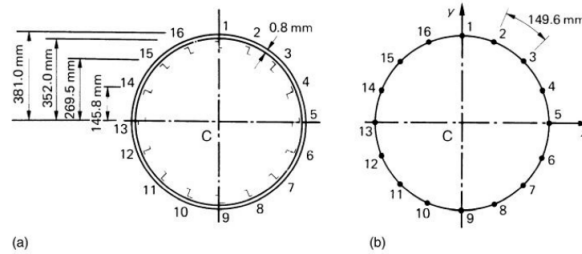

Figure 5
- (b) The fuselage shown in Figure 5 (a) below is subjected to a vertical shear load of 100 kN applied at a distance of 150 mm from the vertical axis of symmetry as shown, for the idealized section, in Figure 5 (b). Calculate the distribution of shear flow in the section. [BL: Apply| CO: 6|Marks: 7]